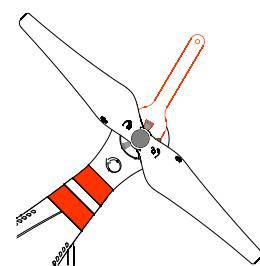

Figure 2-3
- (Figure 2-3) Keep the motor deadlocked in place with the assistant wrench (or one hand) and remove the propeller according to the un-fastening instructions.